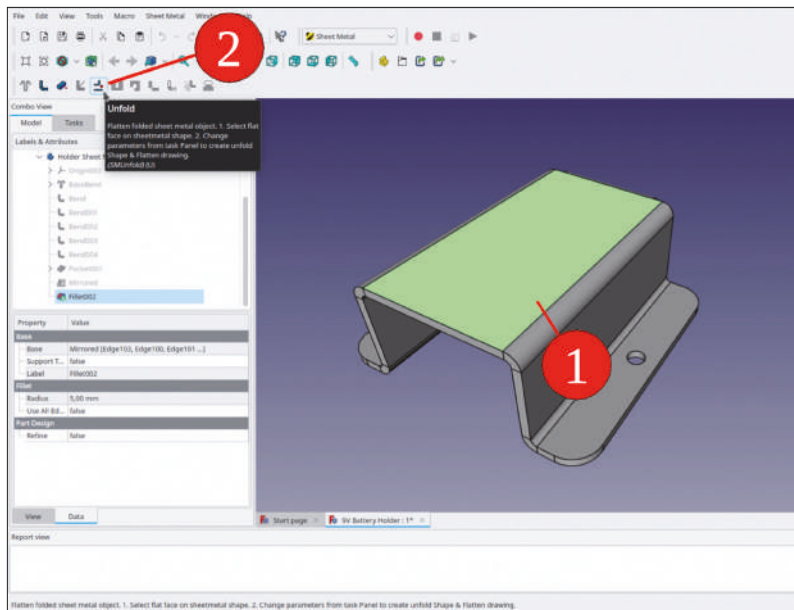

Figure 5-24
29. Switch to the 'Sheet Metal' workbench. In the 3D view, mark the top face of the battery holder. Then, click the 'Unfold' tool button (Figure 5-24).